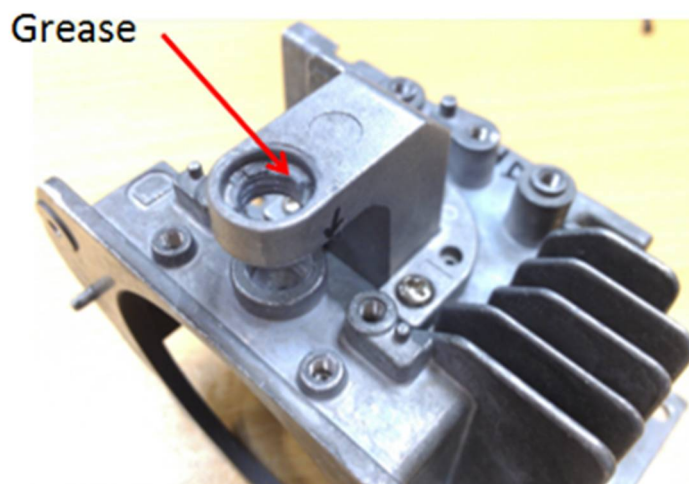

Fig.6-1
- A. Use Grease smear on “HOLDER_LENS_SHIFT”. (Fig.6-1)